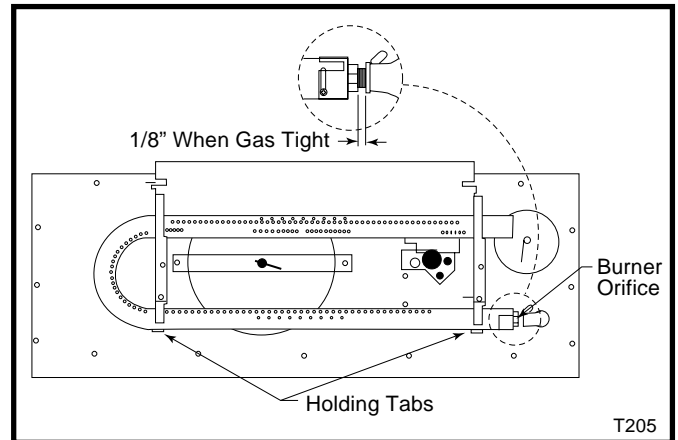

Fig. 40 Bend holding tabs down and forward.
2. Use screwdriver and bend holding tabs down and forward (Fig. 40 & 41)
4. Using a suitable tool replace natural orifice #46 with propane orifice #56 for model DV1000MBN or replace natural orifice #45 with propane orifice #55 for model DV1200MBN, or replace natural orifice #42 with propane orifice #54 for model DV1400MBN furnished with conversion kit. Tighten orifice with suitable tool until gas tight. (Fig. 40)